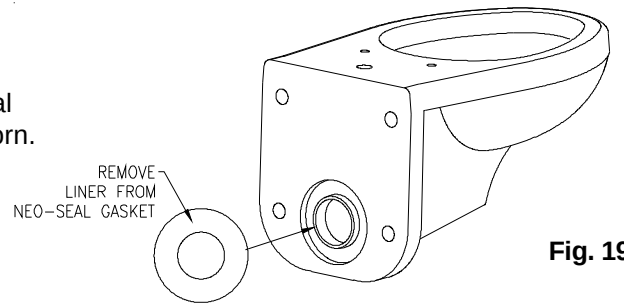

Fig. 19
17. Peel off the removable backing from one-side of the Neo-Seal Gasket and seat into the groove of the water closet outlet horn. See Fig. 19